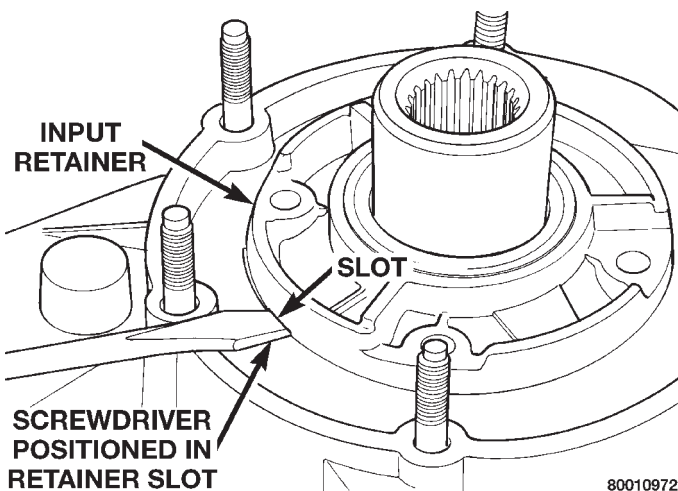

Fig. 30 Input Retainer Removal
(1) Remove input retainer attaching bolts with 10mm socket and air ratchet.
(2) Remove input retainer. Pry retainer loose with screwdriver positioned in slots at each end of retainer (Fig. 30)